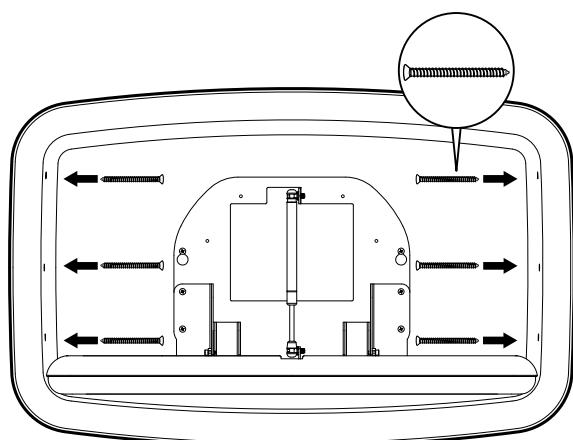

Fig. 2
- Open unit fully and you will have access to the six mounting holes on either side of the unit. **Fig. 2**